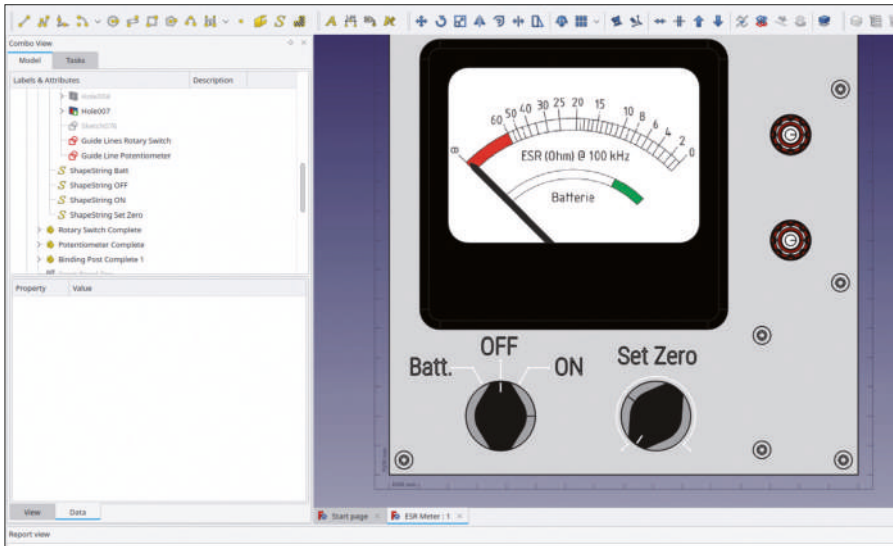

Figure 8-31
7. Above the potentiometer, create the label 'Set Zero' (Figure 8-31).